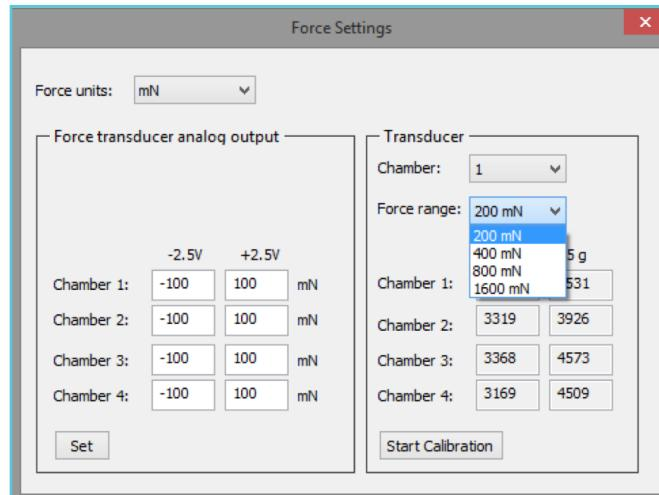

Figure 62: Select the 200mN Force Range before performing the weight calibration
2. Select the Force Range to 200mN (figure 62)